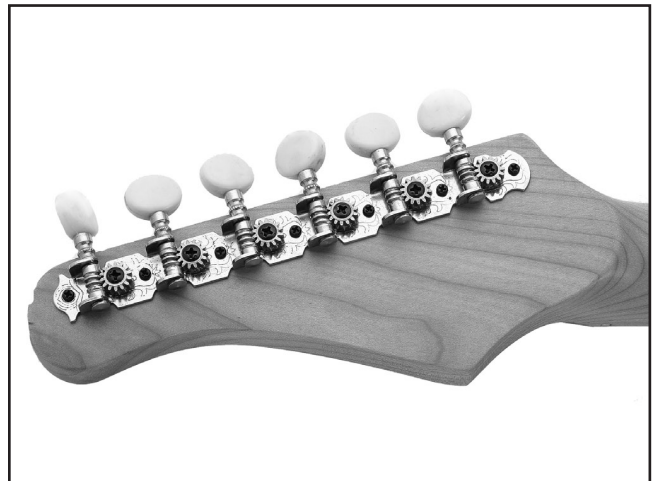

Figure 8. Tuning head plate installed correctly.
4. Align the tuning head plate over the mounting holes and secure with #3 x 3/8" black screws as shown in **Figure 8**.